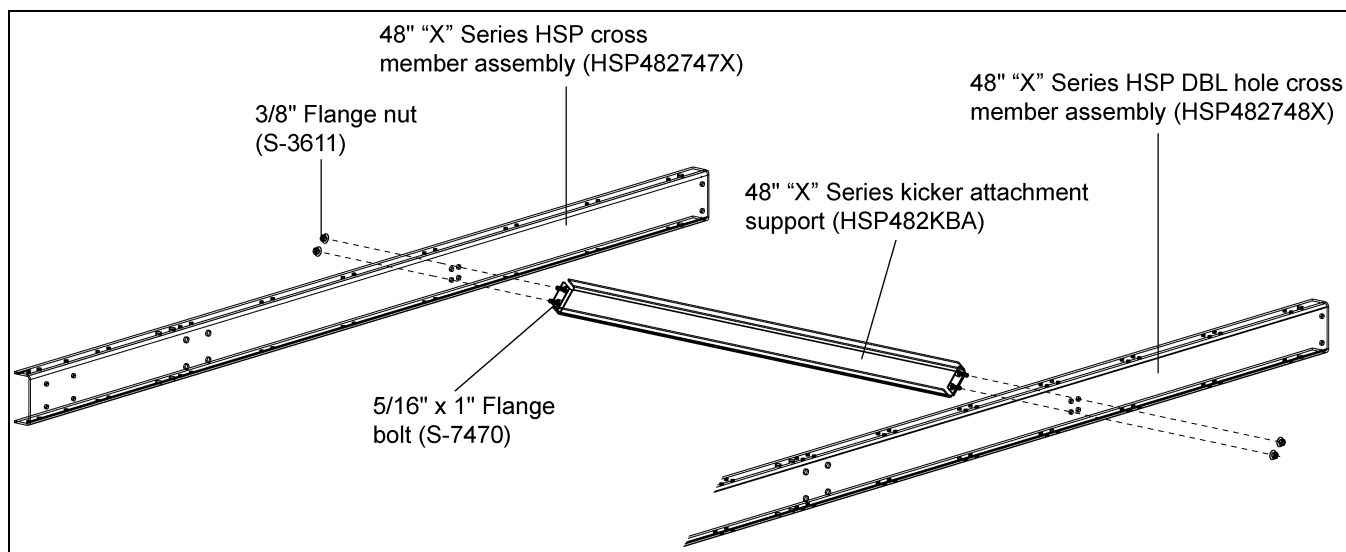

Figure 9F
6. Install kicker attachment support (HSP482KBA) between the two (2) cross channels (HSP482007X) using 3/8" x 1" HHCS bolts (S-7469) and 3/8" flange nuts (S-10028). (See Figure 9F.)